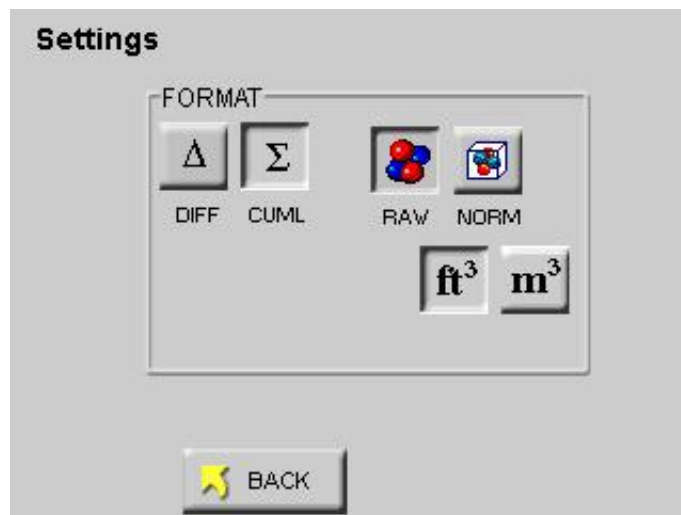

Figure 6-91 Reports Settings Screen
- Select the SETTING button to format the instrument for CUML/DIFF, RAW/NORM, ft³/m³ as shown in Figure 6-91.